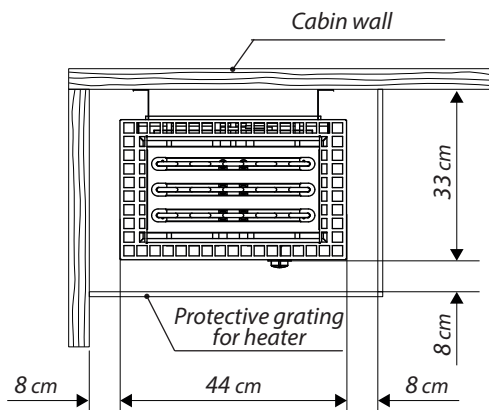

Fig. 1
- The side (horizontal) safety gaps between the heater and the cabin wall or the safety guard rail, bench or other flammable materials must be not smaller as indicated in Fig. 1.